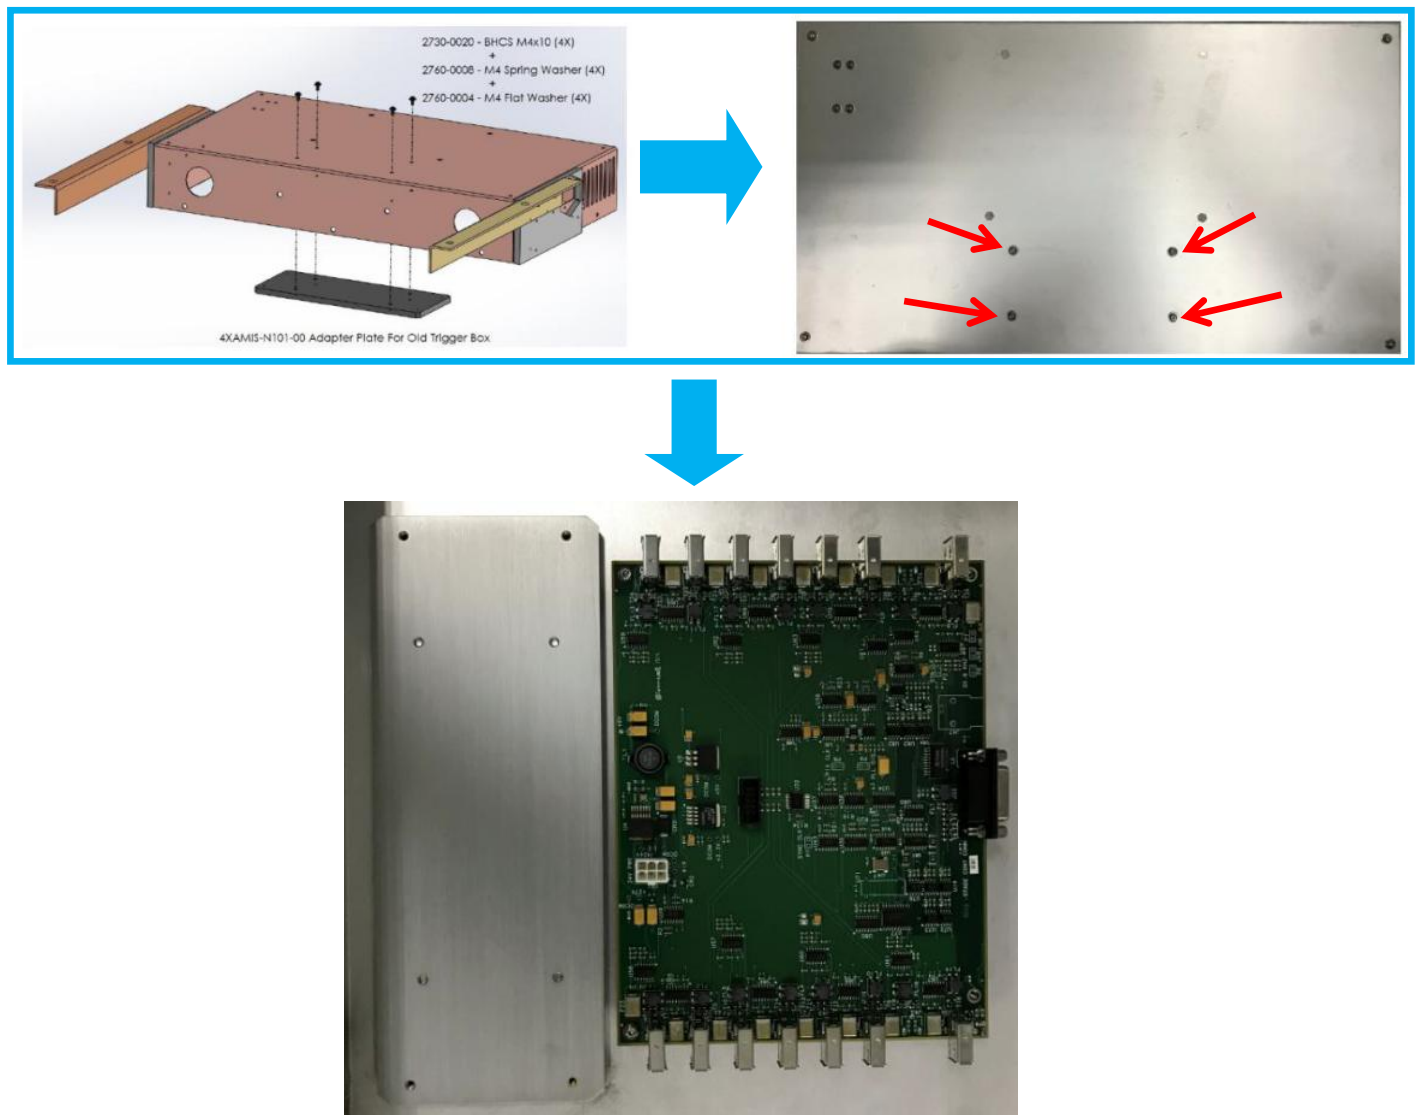

Figure 22 Adapter Assembly
6. Flip the Trigger Board Tray. While attach another Adapter (4XAMIS-N101) into Trigger Board Tray, tighten below fastening kit (M4 X10 Button Head Cap Screws, M4 Spring Lock & M4 Flat Washer) as below Figure 22